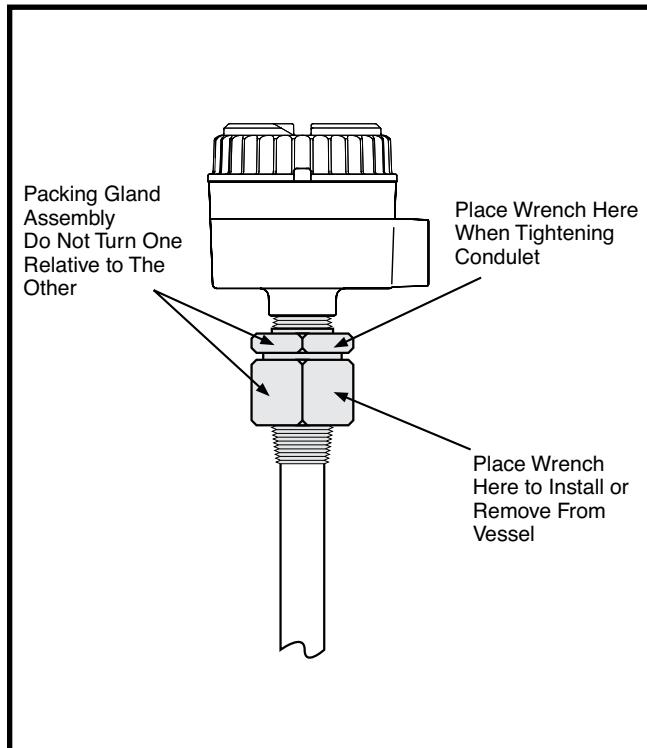

Figure 1
- Do not take the sensing element apart or loosen the packing glands - Follow instructions in Figure 1 below.